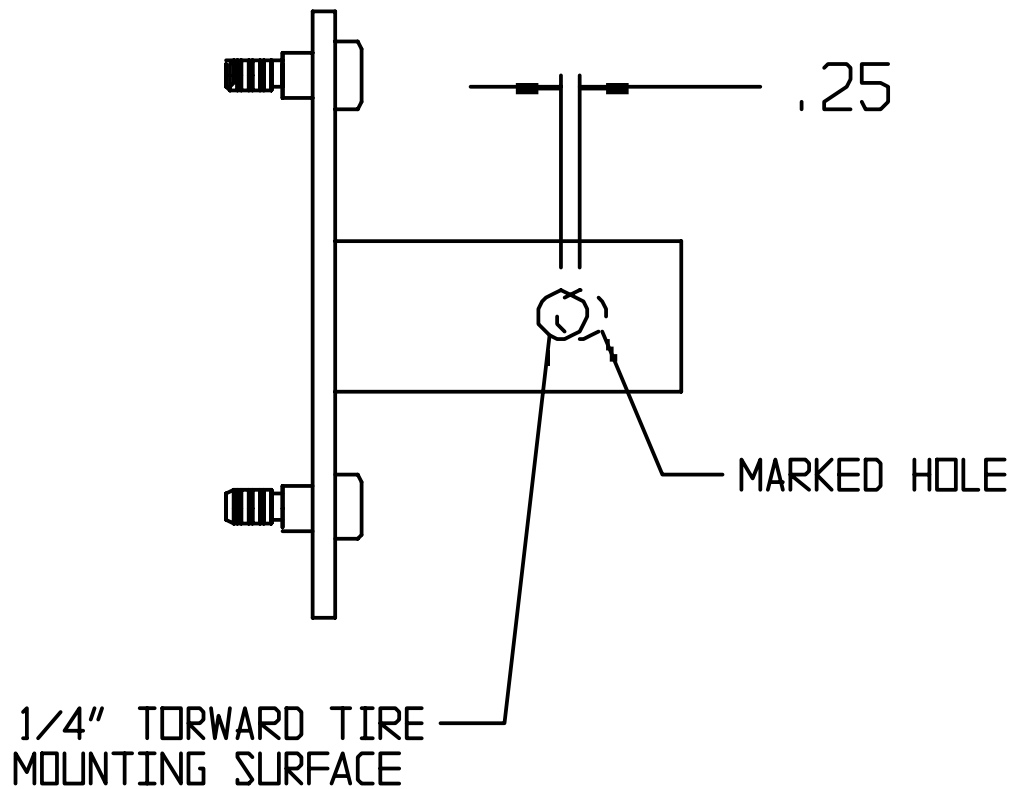

Figure 6
15. Remove the tire and wheel from the mounting bracket. Using the marked location on the tire mounting bracket in the previous step, measure $\frac{1}{4}$ " back toward the wheel mounting surface. This will give the tire pre-load when mounted. Using a $\frac{1}{2}$ " drill bit, drill a hole through both sides of the tire mounting bracket at the marked location. Be sure to re-mark the hole $\frac{1}{4}$ " closer to the tire mounting surface for pre-load. **See Figure 6.**